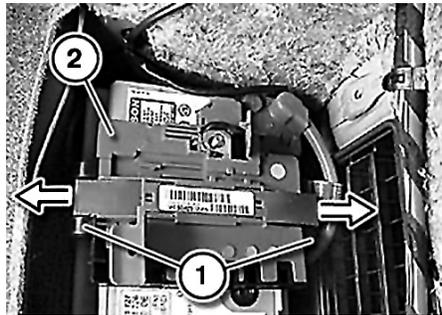

Fig. 4 Distribution box removal
- g. Press locking brackets (1) downward and unclip, **Fig. 4**.
- h. Remove distribution box (2) from battery, **Fig. 4**.
- a. Install distribution box (2) to battery, **Fig. 4**.